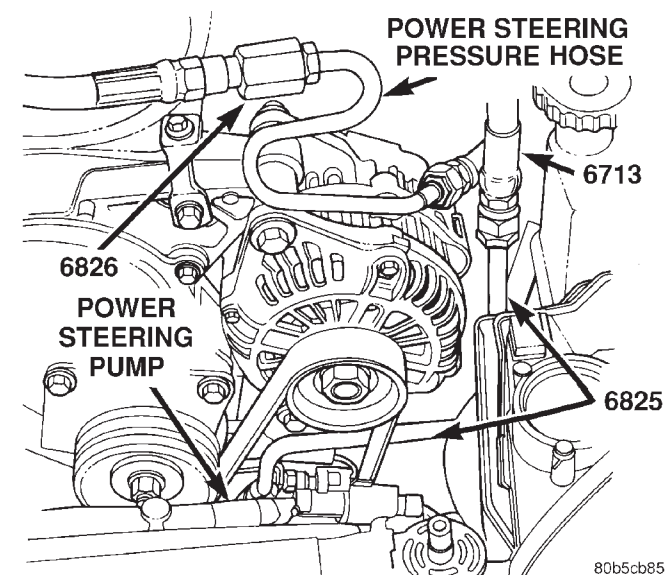

Fig. 9 Analyzer Connected To Power Steering Pump (3.2L/3.5L Engine)
(5) **3.2L or 3.5L engine** — Connect Adapter Fitting, Special Tool 6825, attached to pressure hose from inlet (gauge end) of Power Steering Analyzer to the pressure fitting on the power steering pump (Fig. 9).
(6) Connect vehicle power steering fluid pressure hose to Adapter Fitting, Special Tool 6826, which should be already installed in the outlet hose (valve end) of Power Steering Analyzer.
(7) Completely open valve on Power Steering Analyzer.